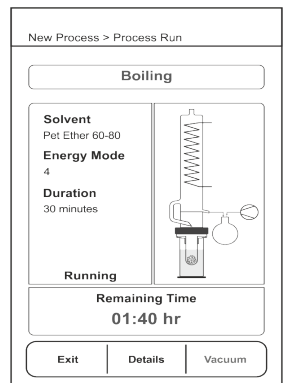

Fig. No. 29.4
e. **Process Run** (Ref. Fig. No. 29.4)